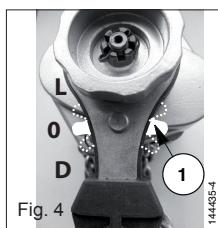

Fig. 4
2. Set the movement selector lever (item 1, fig. 4) to the neutral position "0".
4. If it is not possible to turn the load wheel put the selector lever in the "D" position (fig. 4) and operate the lever handle whilst exerting some force on the hook side of the chain with your hand. Place the selector lever in the "0" position and pull on the chain, which is thus released, using the low limit stop.
1. To lift, pull or tension: put the selector lever to "L" position (fig. 4) and operate the lever handle back and forth.
2. To lower or slacken: put the selector lever to "D" position (fig. 4) and operate the lever handle back and forth.